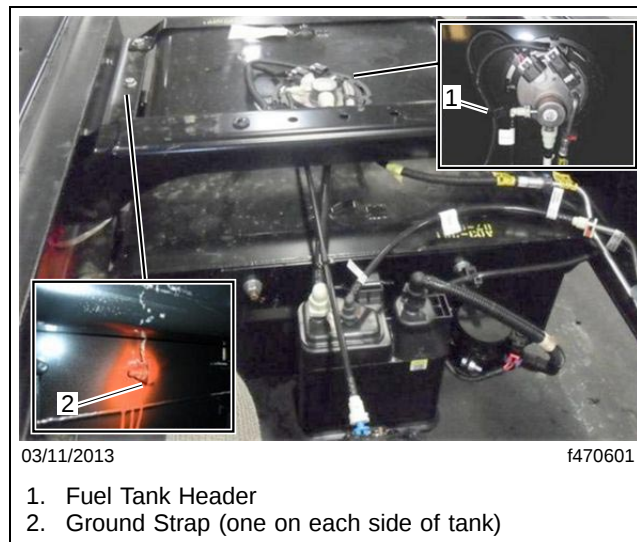

Fig. 2, Fuel Tank Electrical Connections and Hoses
- Take the required photos and attach them to the claim. A clear photo of the manufacturer's label must be included, see **Fig. 2**.